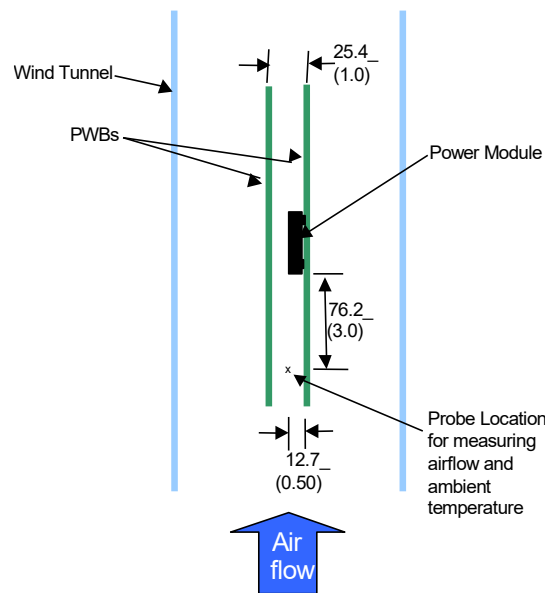

Figure 28. Thermal Test Setup.
Power modules operate in a variety of thermal environments; however, sufficient cooling should always be provided to help ensure reliable operation. Considerations include ambient temperature, airflow, module power dissipation, and the need for increased reliability. A reduction in the operating temperature of the module will result in an increase in reliability. The thermal data presented here is based on physical measurements taken in a wind tunnel. The test set-up is shown in Figure 28. The preferred airflow direction for cooling the module and the thermal reference points, Tref used in the specifications are shown in Figure 29. For reliable operation the temperatures at these points should not exceed 120°C (IC300) and 115°C (C202). The output power of the module should not exceed the rated power of the module ($V_{o,set} \times I_{o,max}$). Please refer to the Application Note “Thermal Characterization Process for Open-Frame Board-Mounted Power Modules” for a detailed discussion of thermal aspects including maximum device temperatures. Increased airflow over the module enhances the heat transfer via convection. The thermal derating of figures 2, 8, 14 and 20 show the maximum output current that can be delivered by each module in the indicated orientation without exceeding the maximum Tref temperature versus local ambient temperature (TA) for several air flow conditions. The thermal derating curves were generated using a 12 layer evaluation board with 3oz copper in inner layers and 2 oz in outer layers.